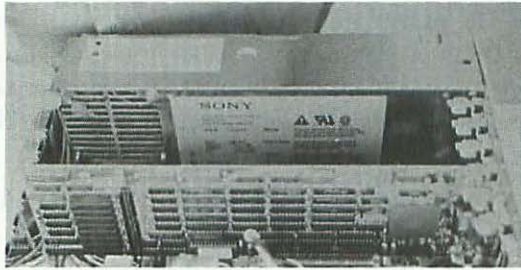

Figure 4-21 Positioning the video card further away from the power supply allows the fan's air to circulate.
16. Figure 4-20 shows the video card mounting position illustrated in the AppleColor High-Resolution RGB Monitor manual. Note that this position muffles the fan, which unnecessarily increases the internal operating temperature of the CPU and generally defeats the purpose of a fan controller. Positioning the Mac II video card further away from the power supply, as shown in Figure 4-21, allows the fan's air to circulate.